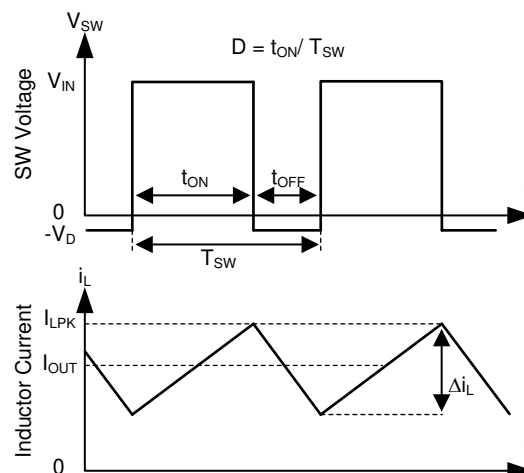

Figure 10-2. SW Node and Inductor Current Waveforms in Continuous Conduction Mode (CCM)
The TPS2585x-Q1 offers a compact solution that achieves up to 6.6 A of continuous output current with excellent load and line regulation over a wide input supply range. The TPS2585x-Q1 supplies a regulated output voltage by turning on the high-side (HS) and low-side (LS) NMOS switches with controlled duty cycle. During high-side switch ON time, the SW pin voltage swings up to approximately V_{IN} . The inductor current i_L increases with linear slope $(V_{IN} - V_{OUT}) / L$. When the HS switch is turned off by the control logic, the LS switch is turned on after an anti-shoot-through dead time. Inductor current discharges through the LS switch with a slope of $-V_{OUT} / L$. The control parameter of a buck converter is defined as Duty Cycle $D = t_{ON} / T_{SW}$, where t_{ON} is the high-side switch ON time and T_{SW} is the switching period, shown in Figure 10-2. The regulator control loop maintains a constant output voltage by adjusting the duty cycle D . In an ideal buck converter, where losses are ignored, D is proportional to the output voltage and inversely proportional to the input voltage: $D = V_{OUT} / V_{IN}$.